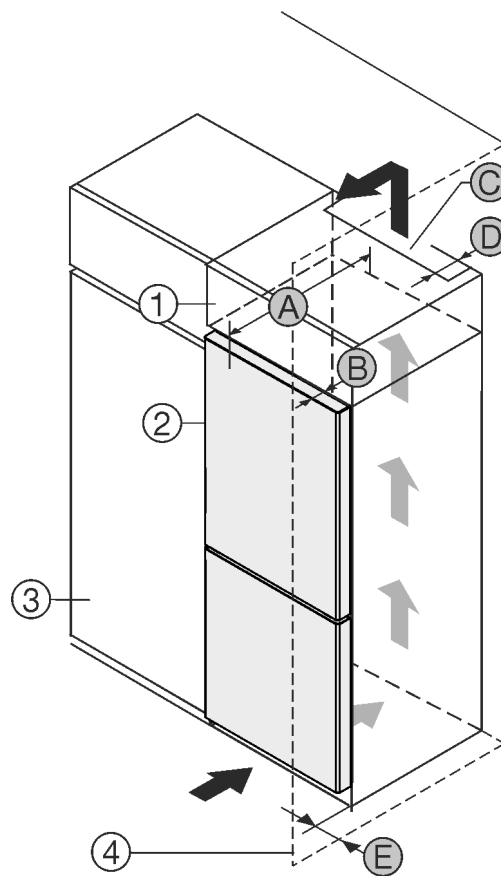

Fig. 1
- (1) Top cupboard\*
- (2) Appliance\*
- (3) Kitchen cabinet\*
- (4) Wall\*
- (A) Appliance depth\*
- (B) Door depth\*
- (C) Ventilation cross-section\*
- (D) Distance to the rear of the appliance\*
- (E) Distance to the side of the appliance\*
You can place the appliance directly beside the kitchen cabinet Fig. 1 (3)\*.
There must be a ventilation shaft at the depth Fig. 1 (D) of the back of the top cupboard over the entire width of the top cupboard.\*
The cross section of the ventilation gap Fig. 1 (C) must be maintained below the ceiling.\*
If the appliance is set up with the hinges next to a wall Fig. 1 (4), the distance between the appliance and the wall must be at least 13 mm.\*
If the appliance is set up with the hinges next to a wall *Fig. 1 (4)*, the distance between the appliance and the wall must be at least 20 mm.\*
In order to be able to fully open the door, the appliance must protrude by the depth of the door *Fig. 1 (B)* from the front of the kitchen cabinet. Regardless of the depth of the kitchen cabinets *Fig. 1 (3)* and use of wall spaces, the appliance can protrude further.\*